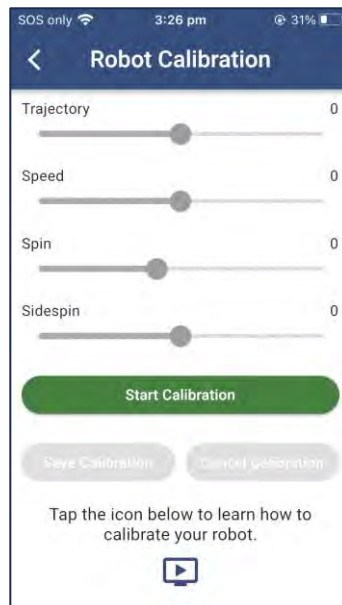

Figure 3-19
8. Press Robot Calibration on the Settings Screen and you will be shown the Robot Calibration Screen (Figure 3-19). Note that the setting on your screen may be different than what’s shown in the Figure.